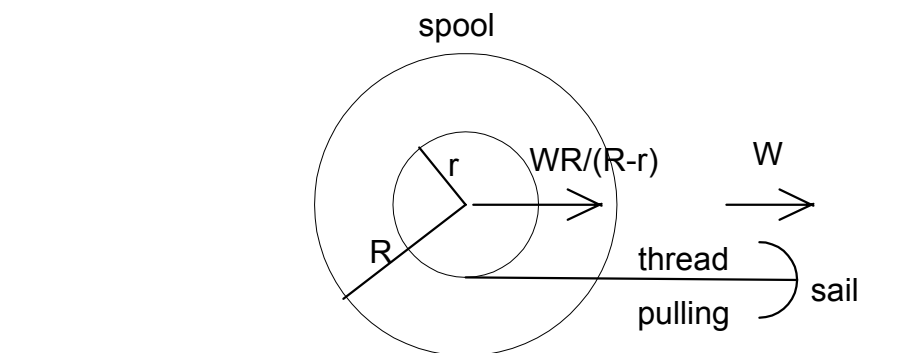

Fig. 1. Spool-of-thread analogy.
Some correspondents have found the following analogy persuasive. Put a sail at the end of a thread which is wound on a spool (the thread must lead from the *bottom* of the spool). See Fig. 1. We will suppose for simplicity that the sail moves downwind at the speed (W) of the wind. Suppose the radii of the ends and drum of the spool are R and r ,